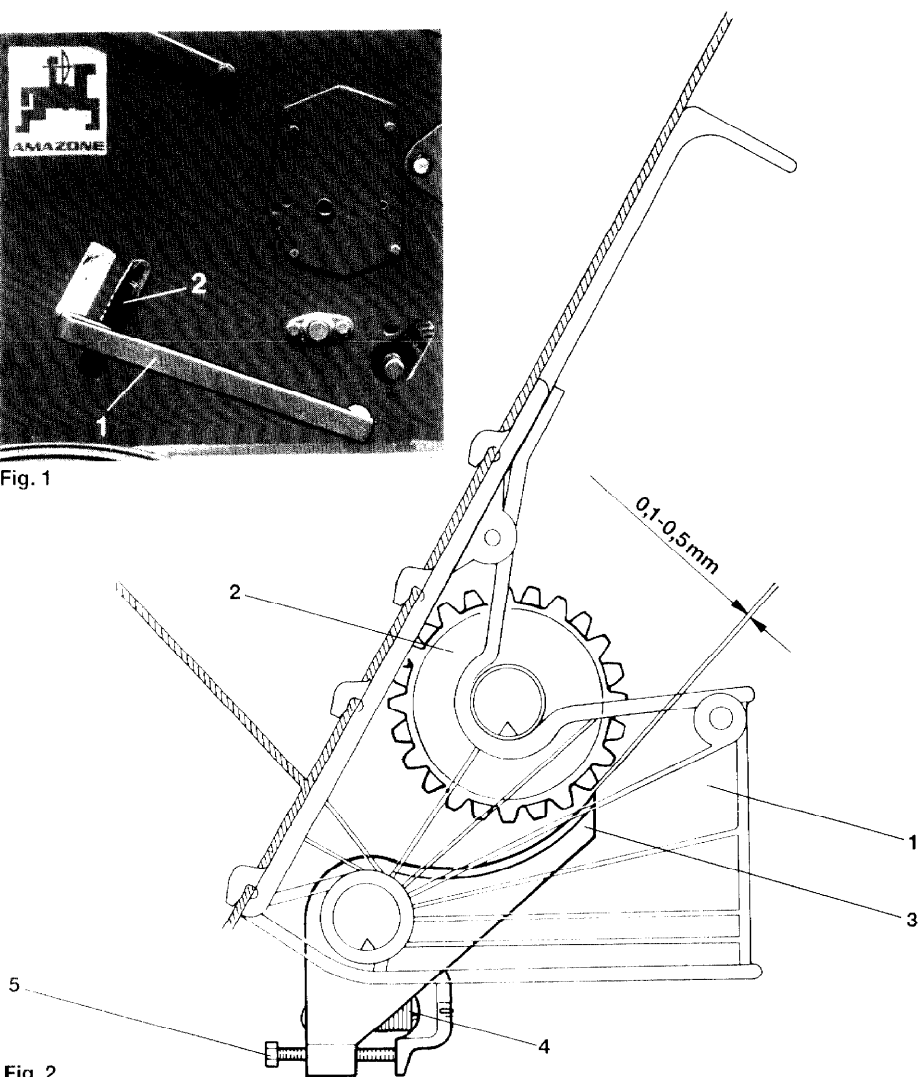

Fig. 2
- Check, whether the prescribed gap of 0.1 mm to 0.5 mm (see Fig. 2) between bottom flap (Fig. 2/3) and metering wheel (fig. 2/2) in every metering wheel housing (Fig. 2/1) is maintained. To do this the metering wheel to be checked should be turned by hand on the metering shaft.
If found necessary reset the prescribed gap at the spring tensioning screw (Fig. 2/5).